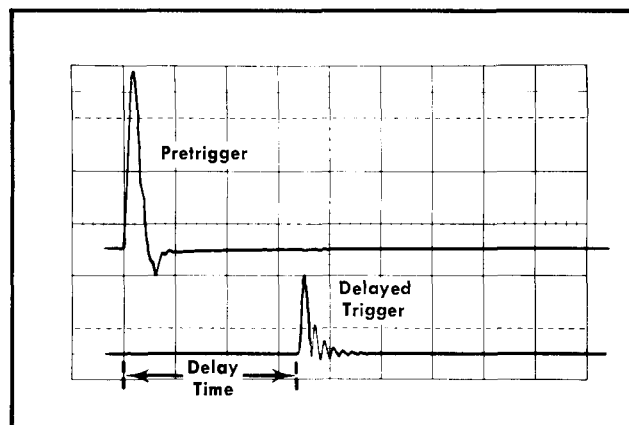

Fig. 6-18. Test oscilloscope display for checking pretrigger and delayed trigger output pulses.
- Position the pulses on the CRT so that they do not overlap (see Fig. 6-18).